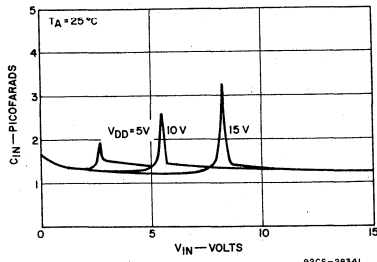

Fig. 10 - Input capacitance of a buffered 2-input NOR gate (CD4001B).
**Input Capacitance**—Figs. 10 and 11 show the dynamic input capacitance of the RCA buffered and unbuffered 2-input NOR gates, respectively. The large MOS transistor geometry of the unbuffered NOR gate is responsible for the higher peak input capacitance (Miller effect) in the linear switching range. The longer dwell in this linear region also tends to broaden the Miller capacitance,